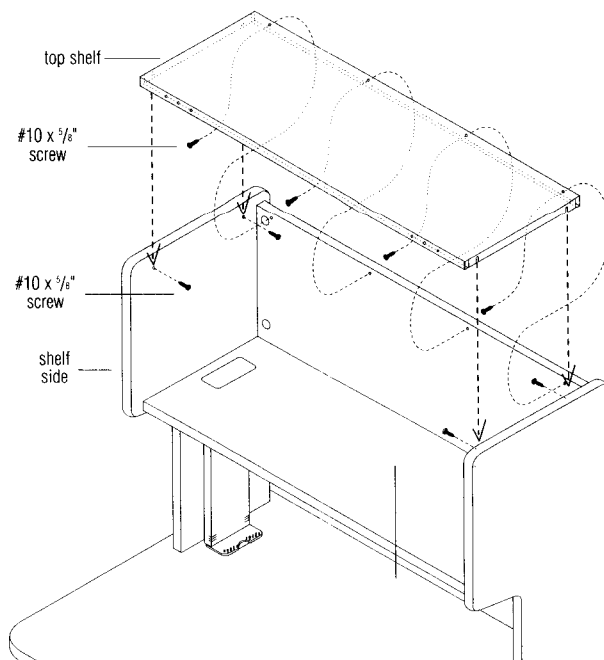

Figure 4
12. Screw four #10 x 1/8" screws halfway into the pre-drilled holes in the shelf sides to allow for installation of top shelf (Figure 4).
13. The top shelf sides have slots that fit into the screws in the shelf sides (same installation method as shelf bottom). Slide the top shelf down into position between the shelf sides, engaging the screws into the slots. Do not tighten. Insert four #10 x 1/8" screws through the back edge of the top shelf and into the pre-drilled holes in the shelf back. Tighten all screws to secure top shelf (Figure 4).